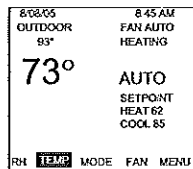

Figure 1
- You are now returned to the Main Menu and Figure 1 is a similar view. **NOTE:** Outdoor temperature is only displayed if an outdoor sensor is installed.